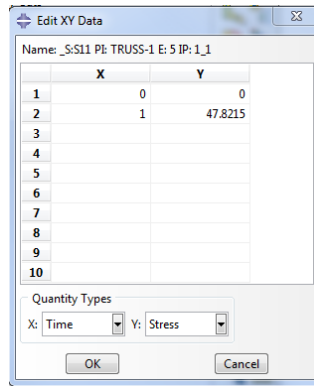

Figure 43. Edit XY Data Dialog Box
- There are stress values for three elements because three were selected in the previous step. To view the value, double click each selection and an **Edit XY Data** dialog box will appear (Figure 43).